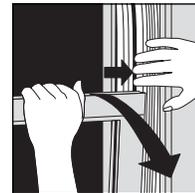

Fig. 9
Slide the wash assists back to the top of the jamb liner (Fig. 8). The upper sash will not tilt out until both wash assists are at the top of the jamb liner. Pull the upper sash down until it is two (2) or three (3) inches above the lower sash. Press the right jamb liner with one hand, and firmly grip the top corner of the upper sash with the other hand. Slide the corner of the sash forward (Fig. 9). Repeat with the left side, and pull the sash inward.